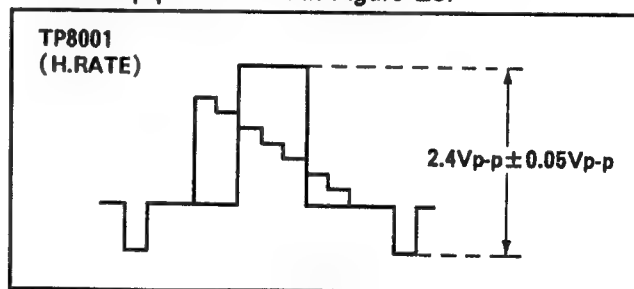

Figure E5
3. Adjust VR8001 so that video level is 2.4Vp-p \pm 0.05Vp-p as shown in Figure E5.